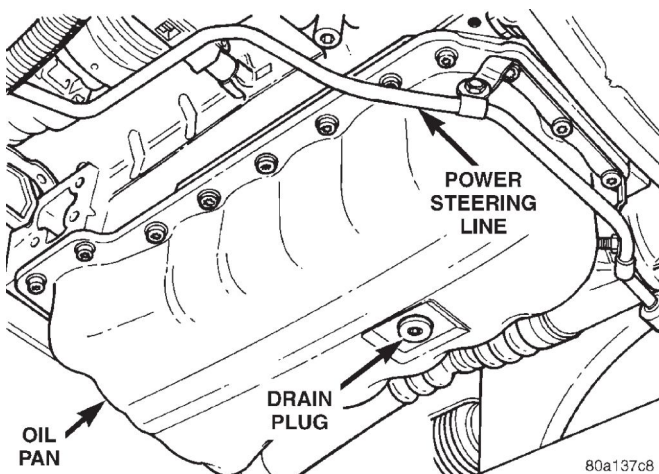

Fig. 5 Oil Drain Plug
(1) Position the vehicle on a level surface and turn engine off.
(2) Remove oil fill cap.
(3) Hoist vehicle. Refer to Hoisting and Jacking Recommendations.
(4) Place a suitable drain pan under crankcase drain.
(5) Remove drain plug from crankcase and allow oil to drain into pan (Fig. 5). Inspect drain plug threads for stretching or other damage. Replace drain plug if damaged.